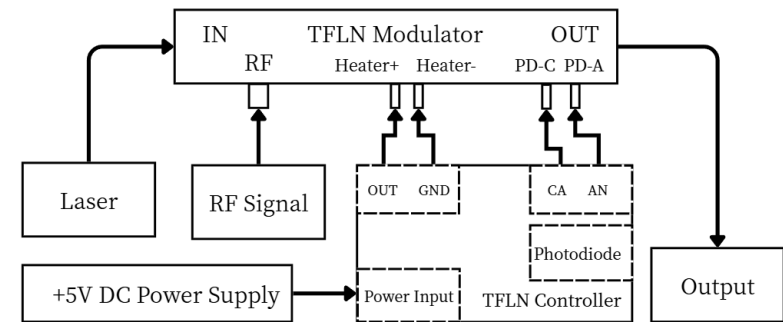

Figure 3. System diagram with the modulator's MPD
Make sure the maximum current output of modulator's built-in photodiode (PD) is within the controller's feedback input current range. See Figure 3 for Complete connection. Connect controller's AN and CA pins to modulator's MPD-A and MPD-C respectively. The controller's photodiode should remain unconnected.